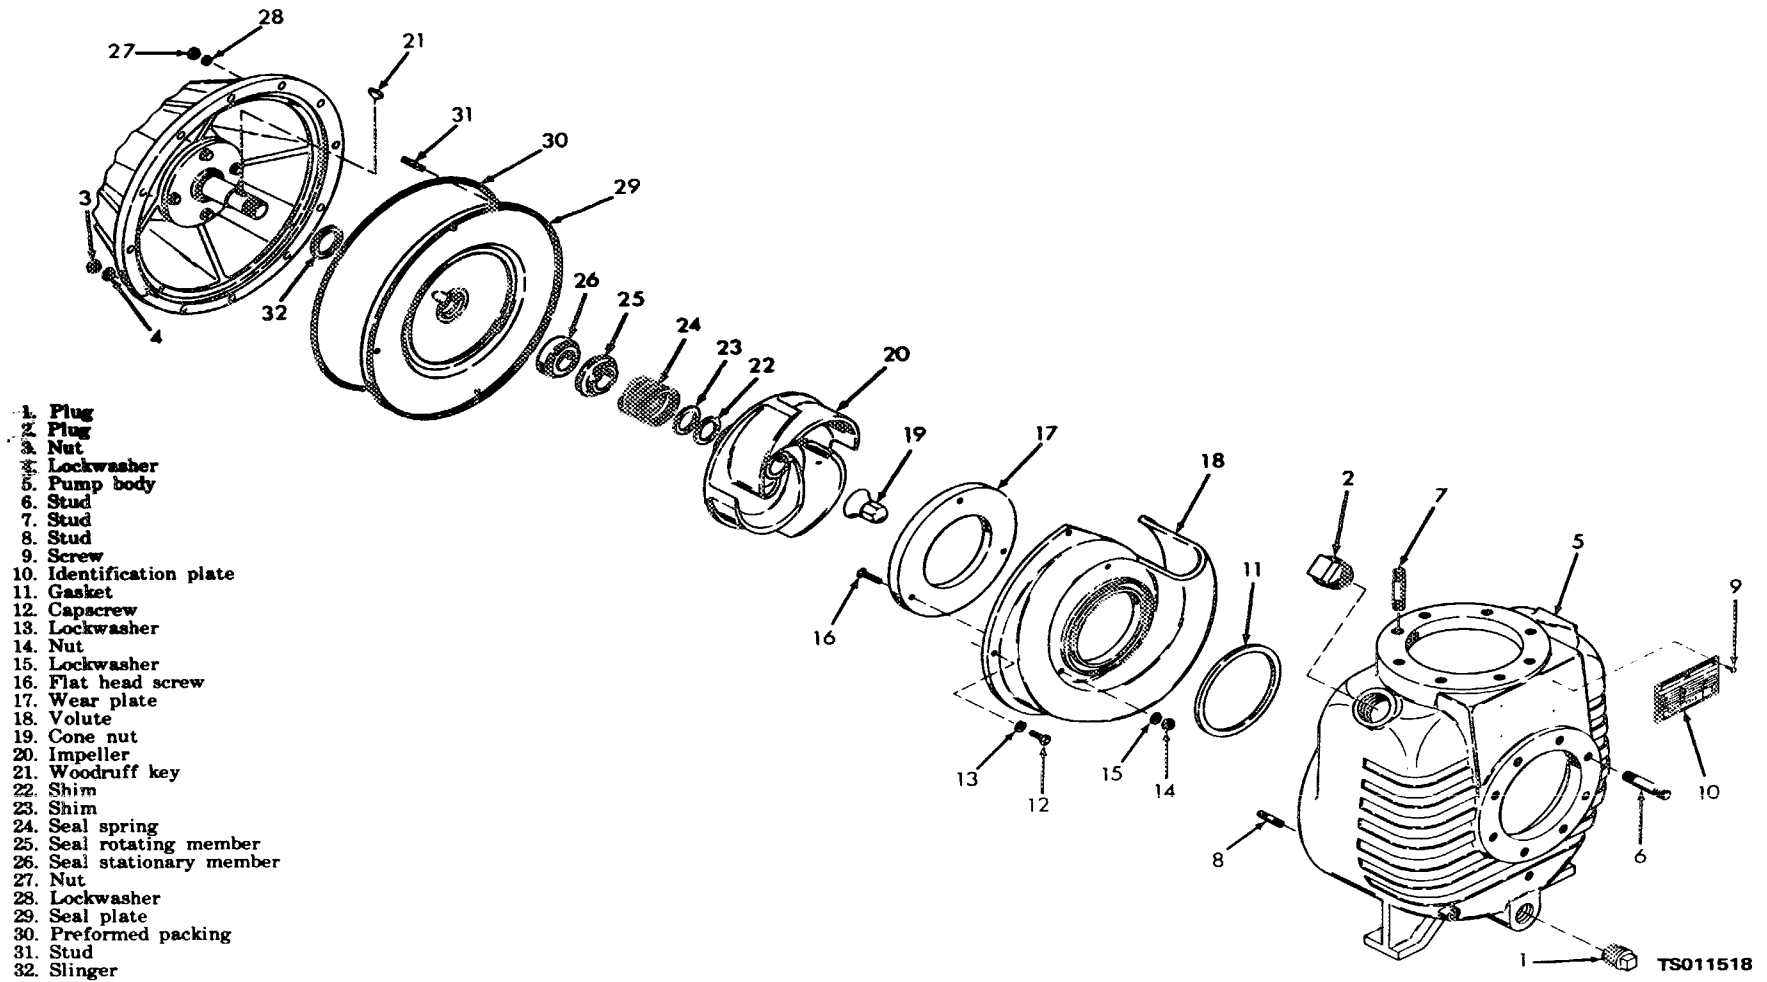

Figure 5-1. Centrifugal pump, exploded view.
a. Remove the drain plug (1, fig. 5-1), and drain all fluid from the pump body.
- c. Remove the nuts (3, fig. 5-1) and lockwashers (4) that secure the pump body (5) to the bearing housing; slide the pump body straight out to disengage it from the remainder of the pump which is secured to the engine.
- d. Remove the capscrews (12), and lockwashers (13), that secure the assembled volute (18) and wear plate (17) to the seal plate (29); remove the assembled parts.
- e. Remove the cone nut (19) that secures the impeller (20) to the impeller shaft. Use a puller to pull the impeller from the shaft and remove the key (21). Temporarily install a plain hexagonal nut on the impeller shaft to protect the threads while pulling the impeller. Remove the shims (22 and 23), seal spring (24), and seal rotating member (25) from the shaft.
- f. Remove the nuts (27) and lockwashers (28) that secure the seal plate (29) to the bearing housing; remove the seal plate with the assembled seal stationary member (26). Remove the seal stationary member from the seal plate.
- a. *Disassembly.* Disassemble the pump following the sequence of index numbers in figure 5-1.
- (1) Discard and replace all seals, gaskets, and packings.
- (2) Clean all parts with cleaning solvent (Fed. Spec. P-D-680) and wipe dry.
- (3) Inspect the pump body for cracks, loose or damaged studs, and for damaged threads. Clean up damaged threads with a thread die. Replace any damaged studs. Replace the housing if damaged beyond repair.
- (4) Inspect the wear plate for wear, scoring, and distortion. If any damage is evident, replace the wear plate.
- (5) Inspect the volute for cracks, distortion, internal scoring, and wear; replace if damaged.
- (6) Inspect the impeller for cracked, chipped, worn or broken vanes, damaged or distorted bore or keyway, and other damage; replace a defective impeller.
- c. *Reassembly.* Reassemble the pump by reversing the disassembly sequence. Refer to figure 5-1. Note the following:
- (1) Press the seal stationary member (26) into seal plate (29) before installing the plate. Lubricate the impeller shaft lightly with oil and slide the seal rotating member (25) and spring into place on the shaft.
- (2) If the same impeller (20) and wear plate (17) are reassembled and no clearance change is indicated, use shims (22 and 23) of the same thickness as those removed. If a new impeller and/or wear plate is installed, determine the shim thickness required to obtain a clearance of 0.010 to 0.020 inch (0.025 to 0.050 cm) between the impeller and wear plate as follows:
- (a) Install impeller (20) on shaft without shims. Be sure that impeller is seated firmly against the shaft shoulder.
- (b) Install volute (18) with wear plate (17) assembled, and secure with screws (12) and lockwashers (13).
- (c) Insert a feeler gage into the front opening of the volute and measure from the face of the impeller (20) to the face of the wear plate (17).
(3) After assembly, when using either new or used parts, recheck the clearance; it must be 0.010 to 0.020 inch (0.025 to 0.050 cm). Check the impeller shaft for free rotation. It must turn freely without catching or binding. If binding is evident, disassemble the pump and correct the condition.
(4) Install the assembled pump and bearing housing onto the engine and chassis (para 2-9).